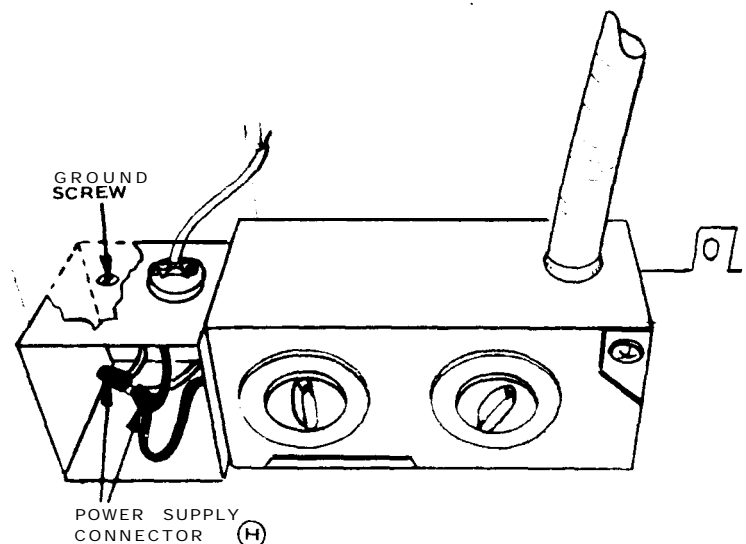

FIGURE 10
- Rotate the junction box 180° from the shipping position and fasten junction box to the ceiling template with the three screws provided as shown. *Note: Two of these must be the blunt point screws (G) and the third is (A).*
- Connect the 115 volt, 60 cycle supply. figure 10.